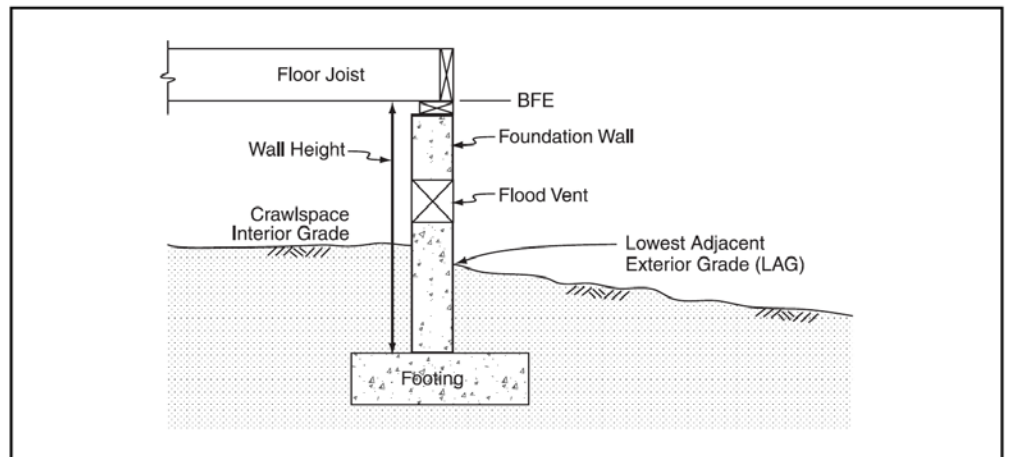
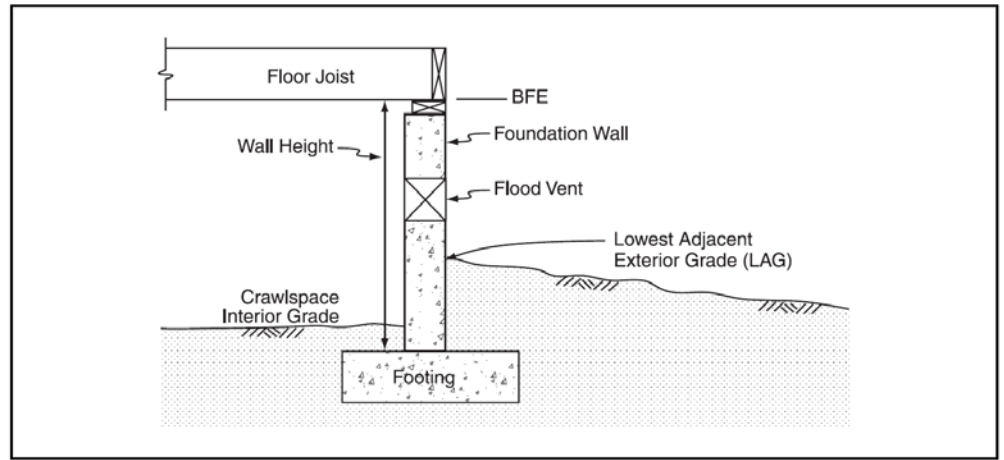

Figure 1 Preferred crawlspace construction.
Figure 2 Below-grade crawlspace construction.
- ** No fill whatsoever shall be allowed except on parcels of land, the boundaries of which are of record in the Henderson County Registry as of the original date of adoption of these regulations (July 5, 2005), and then only upon 20 percent of the total of the flood fringe area (does not include floodway or non-encroachment area) contained in each such parcel, except that additional fill may be permitted in the flood fringe pursuant to a special fill permit (See §42-355 (Special Fill Permits) for more information). If you have trouble determining whether the parcel you are proposing to construct on was created prior to 7-5-2005, contact the office for assistance at (828) 694-6553.
- Provide a minimum of two (2) flood openings on different sides of each enclosed area subject to flooding.
- The total net area of all openings must be at least one (1) square inch for each square foot of each enclosed area subject to flooding;
- If a structure has more than one (1) enclosed area, each area must have flood openings to allow floodwater to automatically enter and exit:
- The bottom of all required openings shall be no higher than one (1) foot above the adjacent grade; and; (inside and outside of crawl space)
- Example of preferred crawlspace construction is shown in Figure 1 and Figure 2 below: